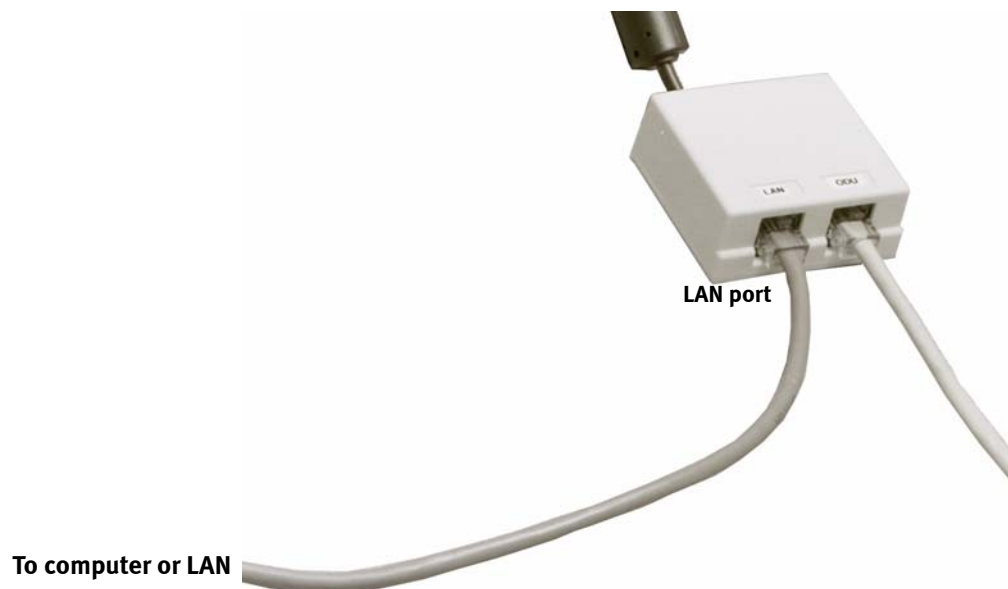

Figure 4-9 *Subscriber Ethernet Connection*
2. Plug one end of the Ethernet cable into the RJ45 socket labeled **LAN** on the Interface Box, as illustrated in *Figure 4-9*.